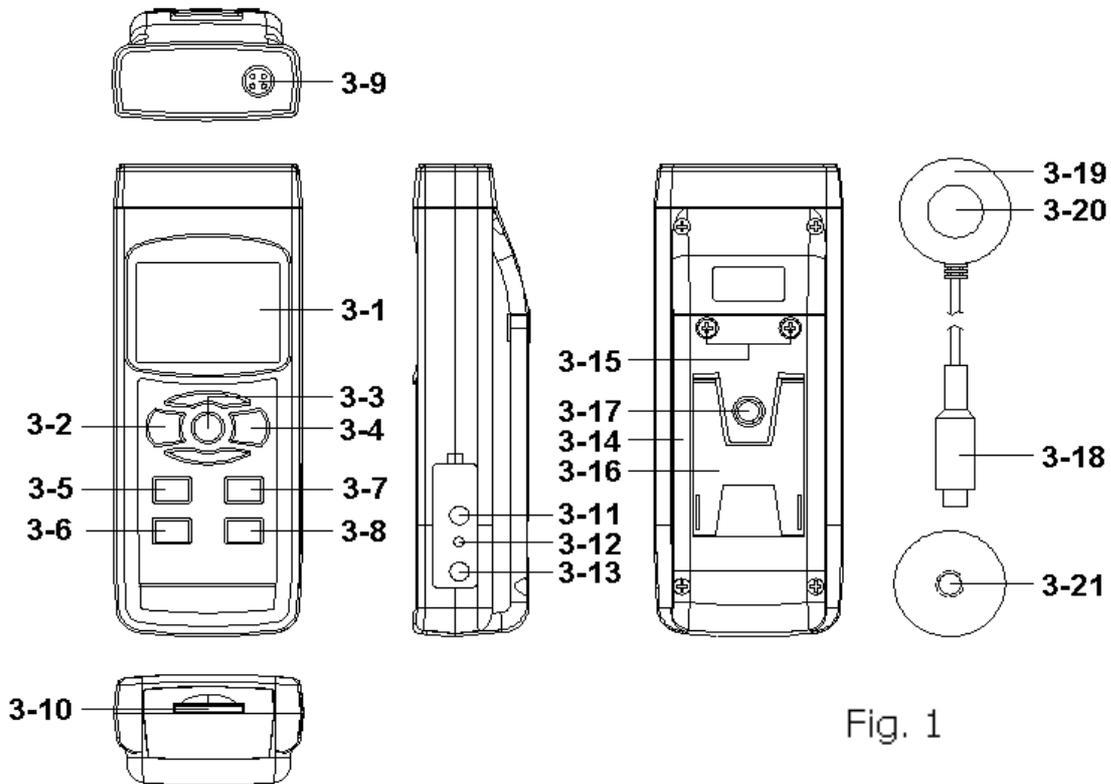

Fig. 1
- 1) Power on the meter by pressing the " Power button " ( 3-2, Fig. 1 ) > 1.5 SECONDS continuously.
Pressing the " UNIT Button " ( 3-5, Fig. 1 )
just release the " UNIT Button " ( 3-5, Fig. 1 ), the meter will select this unit with default.
Pressing the " FUNCTION Button " ( 3-7, Fig. 1 )
2) Until the Display show the desired Function, just release the " FUNCTION Button " ( 3-7, Fig. 1 ), the meter will execute this function with default.
- 1) Install the " Probe Plug " ( 3-18, Fig. 1 ) into the " Probe Input Socket " ( 3-9, Fig. 1 ).
- 3) To hold the " Solar sensor " ( 3-20, 3-19, Fig. 1 ), face to the " Sun light " directly. The display will show the solar power value.
- \* *During the Solar power measurement, if blank the " Solar Sensor " ( 3-20, Fig. 1 ), the Display do not show zero value, press the " ▲ Button " ( 3-5, Fig. 1 ) and " ▼ Button " ( 3-7, Fig. 1 ) together > 1.5 seconds, Display will show zero value with default.*
- b. To hold the " Solar sensor " ( 3-20, 3-19, Fig. 1 ), face to the " Sun light " directly.
- c. Press the " ENTER Button " ( 3-8, Fig. 1 ) once, the Display will show " 100.0 % " ( The original value will equal 100.0 % ), further the Display will show the value ( % ) =
- b. During the measurement If press the " Exit Button " 3-5, 3-7 , Fig. 1 " together  $> 1.5$  seconds will exit the " Transmission " function and return to " Solar power " measurement screen.
- a. Press the " TIME Button " ( 3-6, Fig. 1 ) once, the left lower Display will show " 00.00 " ( zero minute and zero second ).
- b. Press the " ENTER Button " ( 3-8, Fig. 1 ) once, the meter will start the " Solar power integration " measurement. The up main Display will show the " Solar power integration value ", the left lower Display will show the integration time.
Press the " ENTER Button " ( 3-8, Fig. 1 ) once, the meter will start the " Solar power integration " procedures. The up main Display will show the " Solar power integration value ", the left lower Display will show the real time information.
- a. If press the " Clock Button " ( 3-6, Fig. 1 ) once the left lower Display will change the time information from " minute second " to " date hour "
- b. During the measurement If press the " Exit Button " 3-5, 3-7 , Fig. 1 " together > 1.5 seconds will exit the " Solar power integration " function and return to " Solar power " measurement screen.
- c. During the Intergarion measuement, if press the the " FUNCTION Button " ( 3-7, Fig. 1 ) > 1.5 SECONDS ( not release the button ), the Display will show the " Integartion value " or the " Solar power value " in sequence.
During the measurement, press the " Hold Button " ( 3-3, Fig. 1 ) once will hold the measured value & the LCD will display a " HOLD " symbol.
- 1) The data record function records the maximum and minimum readings. Press the " REC Button " ( 3-4, Fig. 1 ) once to start the Data Record function and there will be a " REC " symbol on the display.
- a) Press the " REC Button " ( 3-4, Fig. 1 ) once, the " REC MAX " symbol along with the maximum value will appear on the display.
- b) Press the " REC Button " ( 3-4, Fig. 1 ) again, the " REC MIN " symbol along with the minimum value will appear on the display.
- c) Press the " REC Button " ( 3-4, Fig. 1 ) again, the " MIN " symbol will be appeared, LCD only show the " REC " symbol, the meter start the Data Record function again.
- 3) To exit the memory record function, just press the " REC Button " ( 3-4, Fig. 1 ) > 1.5 SECONDS continuously. The display will revert to the current reading.
- 2) During the measurement, push the " Backlight Button " ( 3-2, Fig. 1 ) once will turn OFF the " LCD Backlight ". If push the " Backlight Button " once again will turn ON the " LCD Backlight " again.
Prepare a " SD memory card " ( 1 G to 16 G, optional ), insert the SD card into the " SD card socket " ( 3-10, Fig. 1). The front panel of the SD card should face against the the down case.